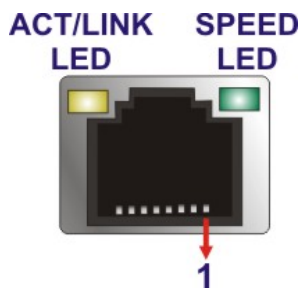

Figure 3-24: LAN Connector
- CN Pinouts:** See Figure 3-24 and Table 3-23